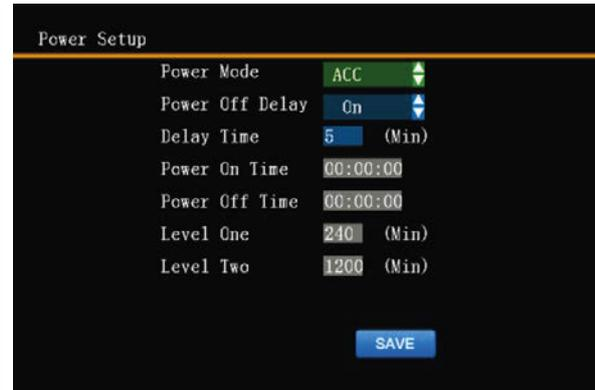

Figure 3-9
3.3-2 Power Set (see Figure 3-9)